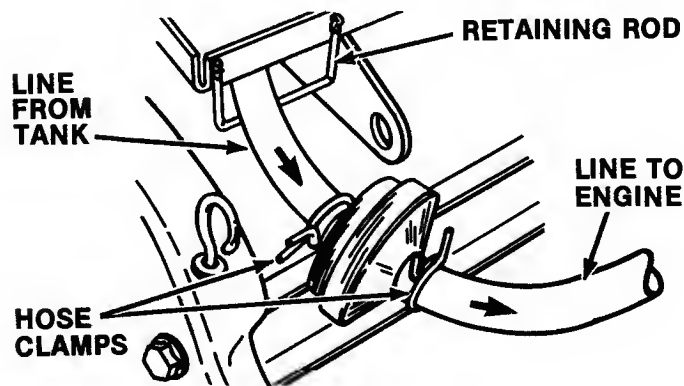

FIG. 12 - FUEL FILTER DETAIL
- SERVICE FUEL FILTER as Instructed on page 6 (Figure 12).
Check the in-line fuel filter at frequent intervals and replace before the screen becomes clogged with sediment. Make sure the replacement is correctly installed with IN marking toward the tank and OUT side toward the engine. Route the fuel line thru the holder strap as shown in figure 12. Check the fuel system components frequently and replace any parts showing worn spots or cracks.
Should the mower blade take more than five seconds to stop after the mower blade is switched off, the brake plate may need adjusting. When properly adjusted, a .010" feeler gauge will fit thru the opening on both sides and bottom of the clutch as shown in figure 12. To adjust, turn the four adjusting nuts in or out as needed to obtain the .010" clearance.